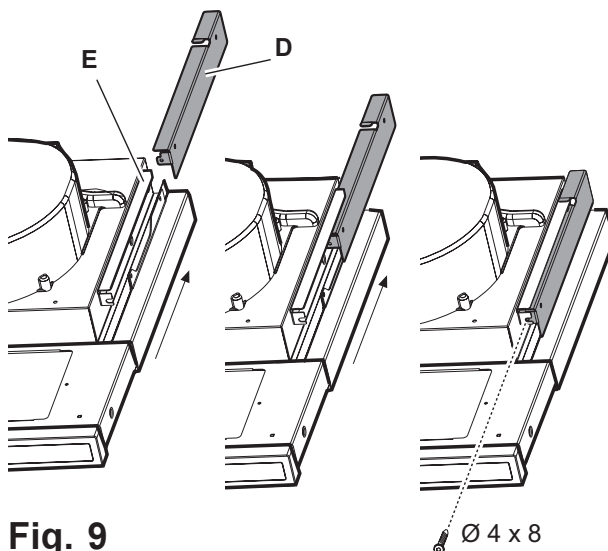

Fig. 9
- Insert the cooker hood in the wall cabinet, ensuring to position the cooker hood bracket **E** above the wall cabinet bracket **D** (Fig. 9).
- Block the cooker hood with two screws on the frontal part (Fig. 9 – one per side).